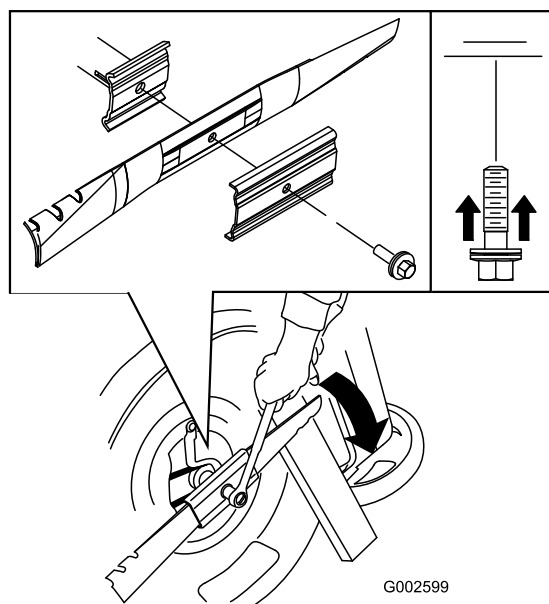

Figure 21
5. Install the new blade (turn the blade bolt clockwise) and all mounting hardware (Figure 21).